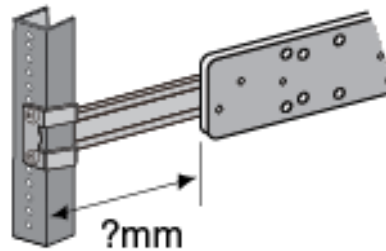

Figure 106. Measuring for the Extension Brackets
3. Measure the distance from the front of the equipment rack to the front of the inner rail. This will be the approximate length of the extension brackets. Refer to Figure 106.